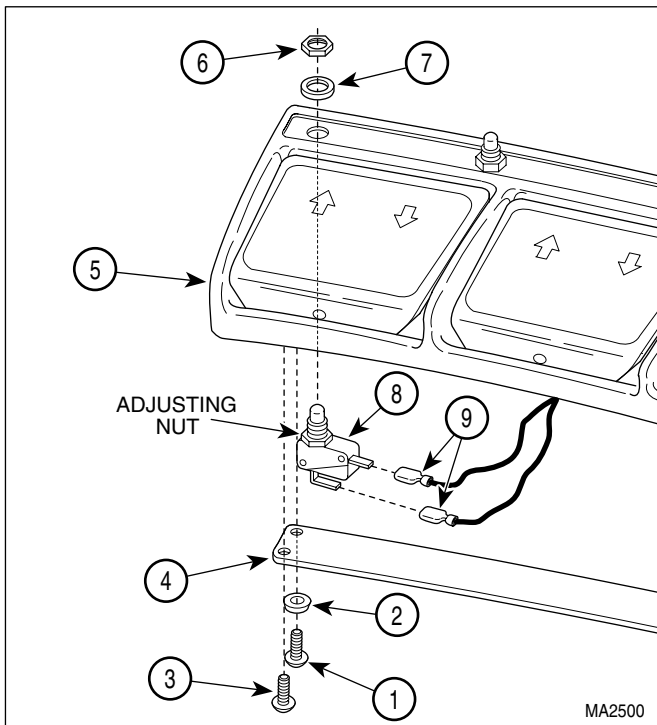

Figure 4-28 Typical Foot Switch
- (1) Disconnect coil cord of foot control from chair.
- (2) Remove four screws (1, Figure 4-28), four glides (2), four screws (3), and wire channel cover (4) from foot control casting (5).
- (3) Remove nut (6) and lockwasher (7) from foot switch (8).
- (4) Partially remove foot switch (8) from foot control casting (5).
- (5) Disconnect two wires (9) from terminals of foot switch (8) and remove foot switch.